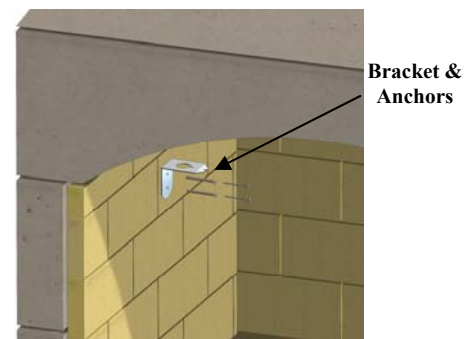

Figure 30. Install Bracket & Anchors
C. Install bracket towards the front of the firebox wall, about 20 inches above the firebox floor. The bracket will capture the damper operating cable. Use a 1/4" masonry bit to avoid cracks in the firebrick. See Figure 30.